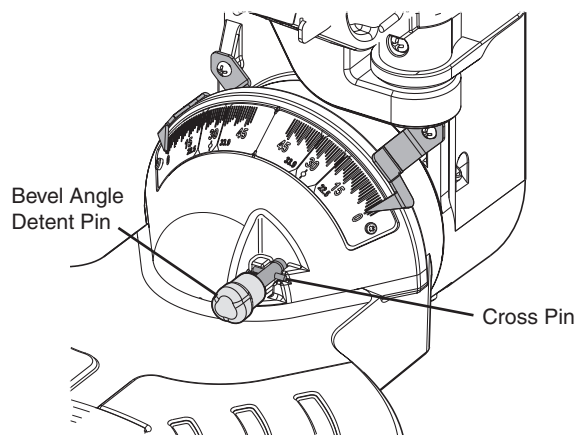

Figure 52. Cross Pin Disengaged for Full Range of Bevel Cuts
- The saw has a bevel angle detent pin which can only be engaged at 33.9° left or right - this is the bevel angle required when cutting 38° "spring angle" crown molding flat on the table. **NOTE:** If the bevel detent pin automatically engages at 33.9° and prevents tilting the saw to another angle, simply pull it to the front and rotate its cross pin 1/4 turn so it rests in the disengaged position. If pin is sticking in, tilt and rock saw head side to side as you pull on it (see Figure 52).